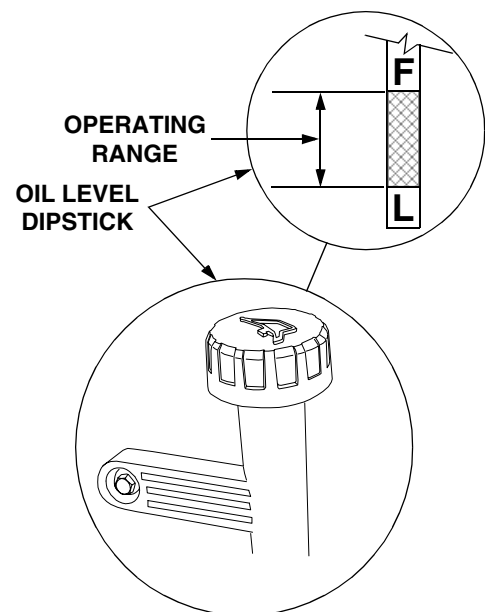

Figure 19
Regularly checking and maintaining the engine oil level in the crankcase cannot be overemphasized. Close monitoring of the oil level during the first 10 hours of operation is especially important. Referring to Figure 19, check the oil level **BEFORE EACH USE** as follows:
3. Remove the oil fill cap/dipstick from the oil fill tube and **SLOWLY** pour oil into the oil fill tube. Fill the crankcase until the oil level reaches the "FULL" mark on the dipstick (Refer to Figure 19).
3. Remove the oil fill cap/dipstick from the oil fill tube and SLOWLY pour oil into the fill tube. The oil capacity is approximately 4 pints. Fill the crankcase until the oil level reaches the "FULL" mark on the dipstick (Refer to Figure 19).